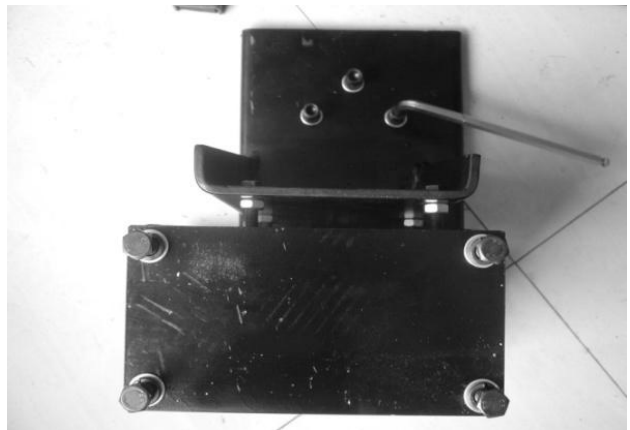

Fig 7-1
7.1.2 Detach the package of the PL330assistant. Check the accessory according to the pack list. After confirmation, takeout the base assembly (fig7-1) and remove the screw and washer on it.